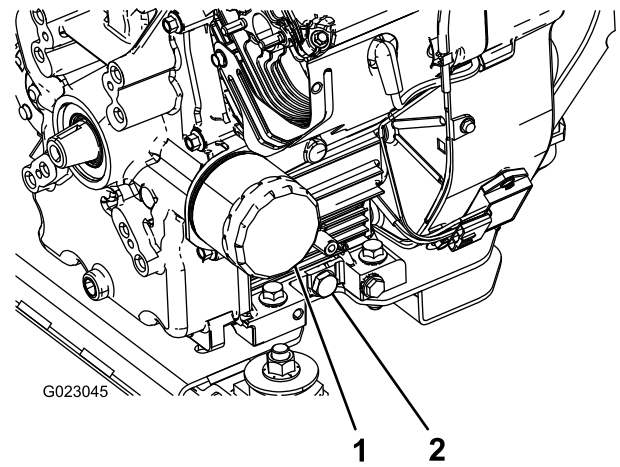

Figure 29
5. Remove the drain plug (Figure 29).
2. Remove the oil filter (Figure 29).
5. Install the replacement oil filter to the filter adapter. Turn the oil filter clockwise until the rubber gasket contacts the filter adapter, then tighten the filter an additional 1/2 turn (Figure 29).